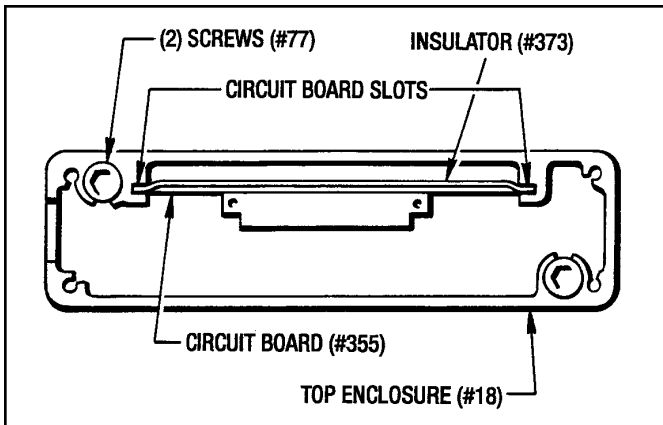

Figure 9.24 - Circuit Board Slots
8. While holding the Circuit Board upright slide the Upper Enclosure (#18) down over the Circuit Board onto the Disc Housing. Make sure the edges of the Circuit Board are in the (2) side retaining slots located in the Upper Enclosure. (See Figure 9.24)
9. Check the Gasket (#19) to see if it is still in place. Insert the (2) Screws (#77) and tighten down.
10. Slide the Insulator (#373) down and into the Upper Enclosure (#18) behind the Circuit Board (#355) placing the upper tabs into the circuit board slots. (See Figure 9.24)